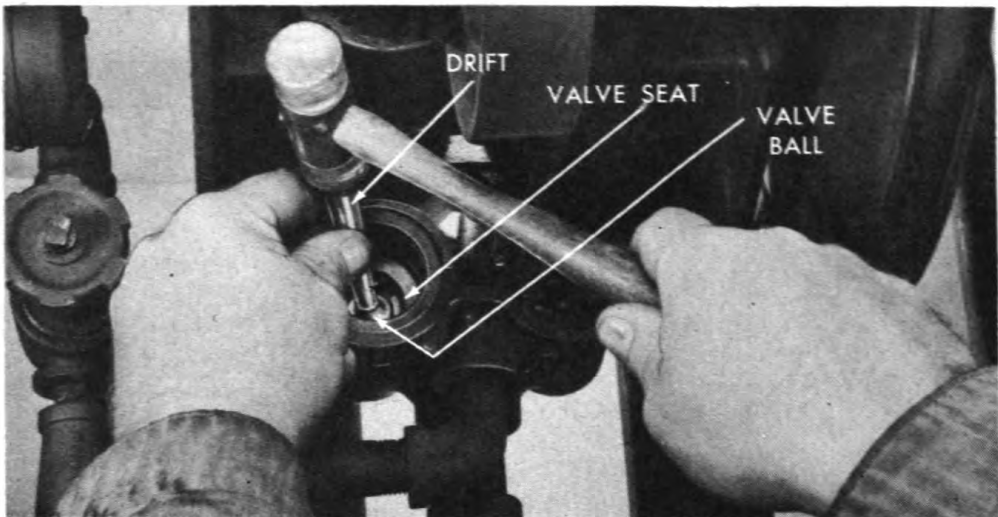

Figure 41—Seating Lower Valve Seat
(1) With lower (intake) valve seats in their approximate position, drop valve balls into place on the seats; then to insure that valve seats are tight, place a piece of wood or brass drift against valve ball and tap with hammer (figure 41).